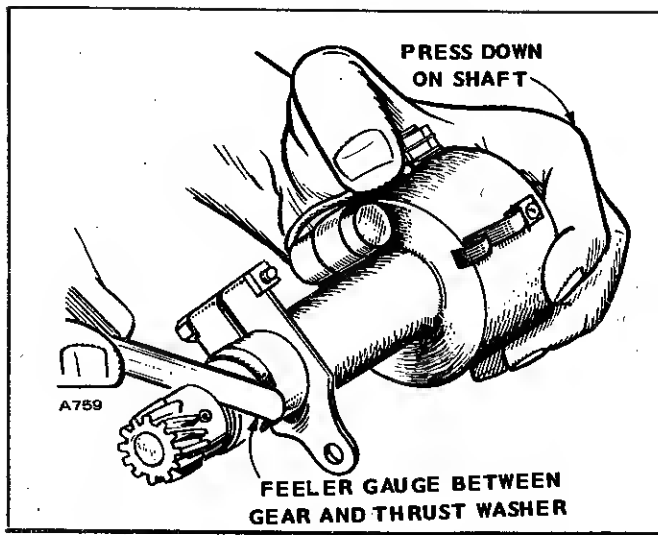

FIGURE 44. CHECKING END PLAY
2. Check the drive shaft end play (Fig. 44). It should be between .003" and .010". If end play is too small, tap the lower end of the distributor drive shaft lightly with a soft hammer to increase play. If it is too great, check the thrust washer installation or re-install the gear.